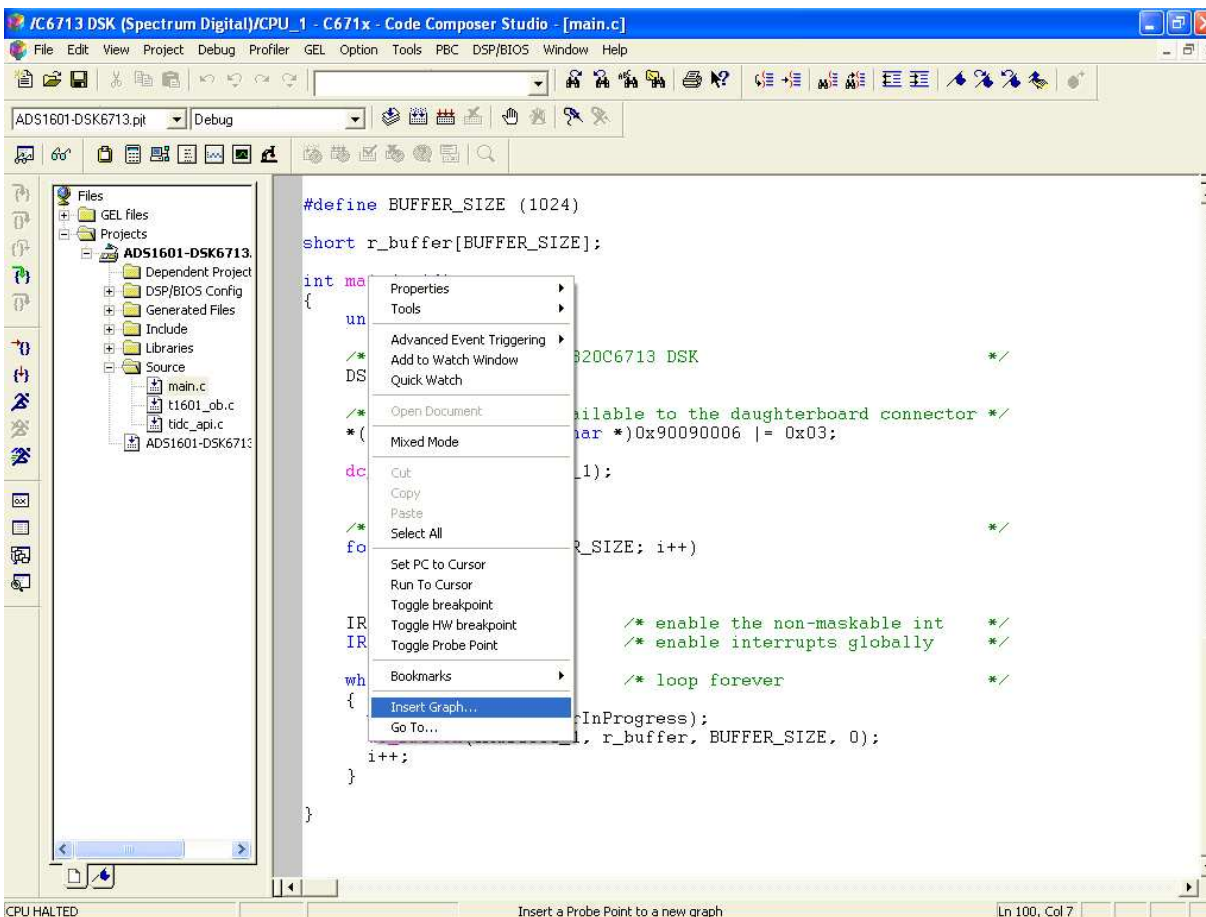

Figure 18. CCS Context Menu
- Set the cursor in front of the *dc_rblock()* command and right click in this line. A new pop-up menu opens; select *Insert Graph* (see Figure 18).